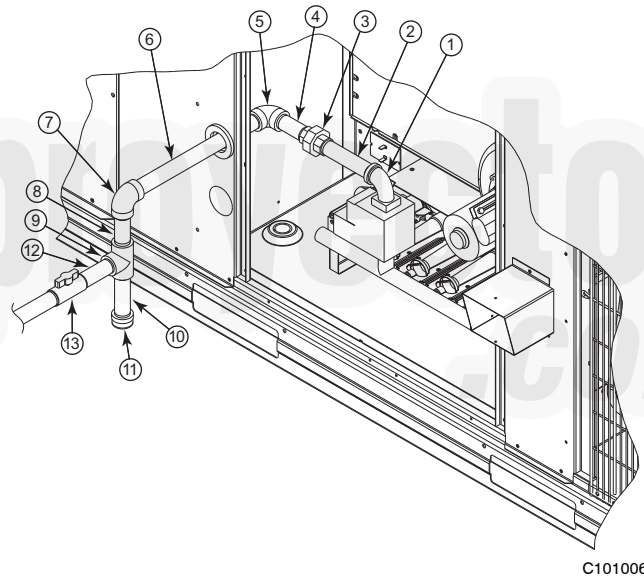

Fig. 19 - Gas Supply Line Piping
For typical $\frac{3}{4}$ inch NPT field supplied fittings required for NON Thru-Base gas supply starting from the unit gas valve, omit items 14 and 15 from Table 2 and pipe gas supply into TEE. See Fig. 19.
Some municipal codes require that the manual shutoff valve be located upstream of the sediment trap. See Fig. 19 for typical piping arrangements for gas piping that has been routed through the sidewall of the base pan.